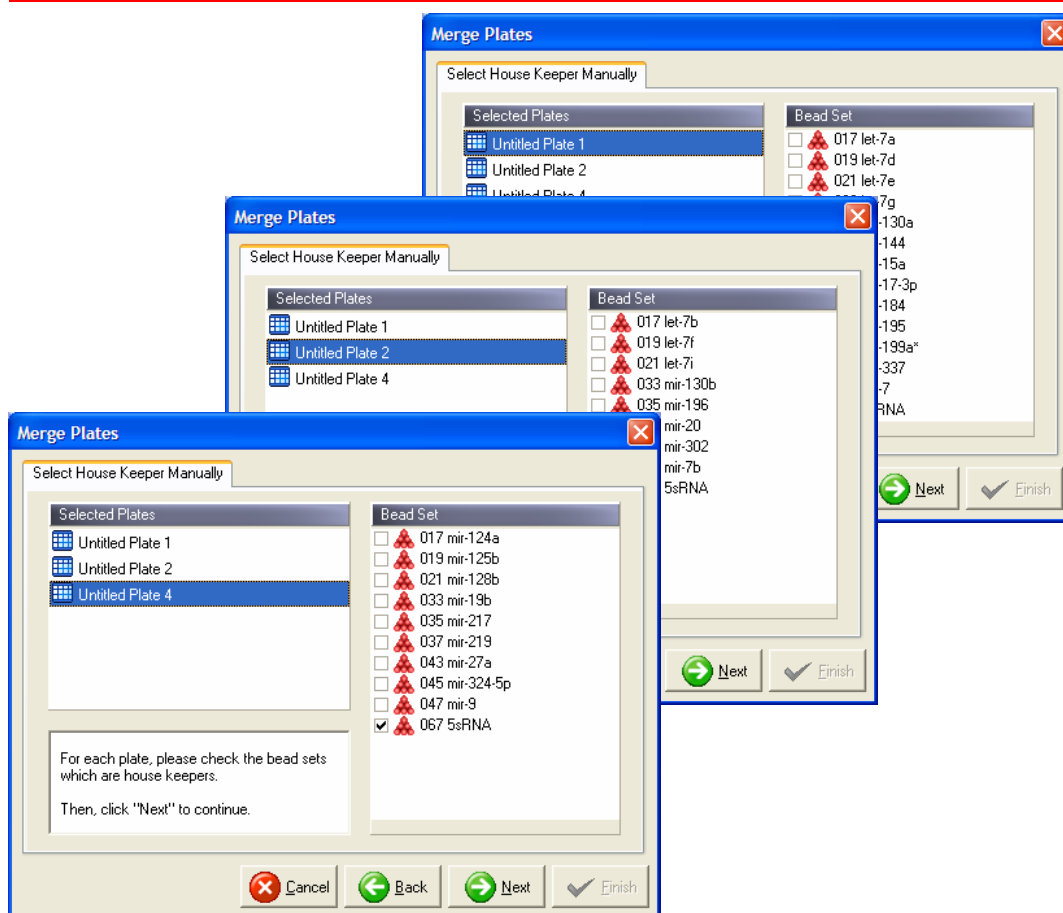

Figure 6.16 Manual analyte selection
3. At this step, you can manually select analytes(Figure 6.16), from each plate, to be excluded from the virtual plate. Then, go the next page to finish wizard.